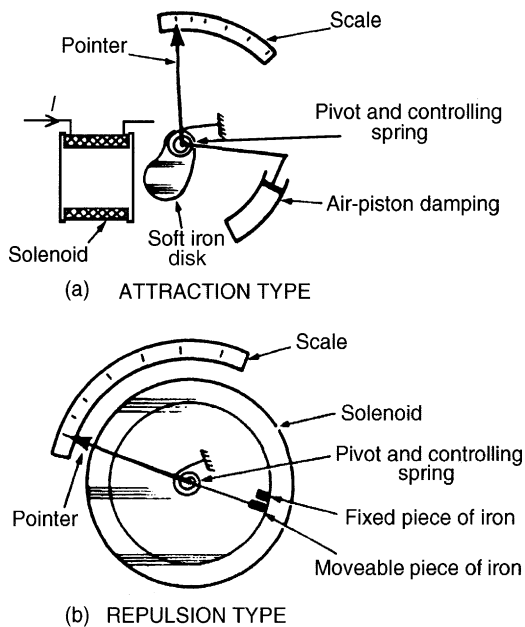

Figure 10.2
- An **attraction type** of moving-iron instrument is shown diagrammatically in Fig. 10.2(a). When current flows in the solenoid, a pivoted soft-iron
- (b) In the **repulsion type** moving-iron instrument shown diagrammatically in Fig. 10.2(b), two pieces of iron are placed inside the solenoid, one being fixed, and the other attached to the spindle carrying the pointer. When current passes through the solenoid, the two pieces of iron are magnetized in the same direction and therefore repel each other. The pointer thus moves across the scale. The force moving the pointer is, in each type, proportional to  $I^2$  and because of this the direction of current does not matter. The moving-iron instrument can be used on d.c. or a.c.; the scale, however, is non-linear.